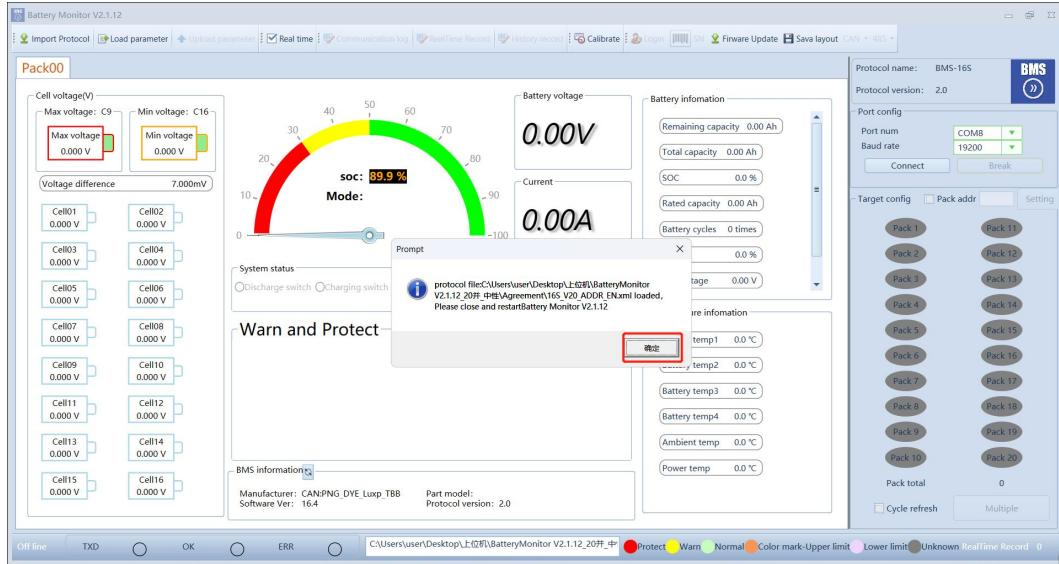

Figure 3-3
3) Click to determine,Figure3-3